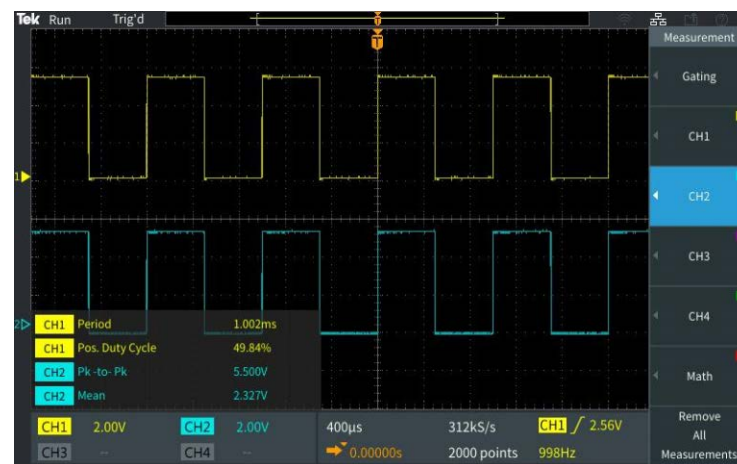

Figure 13. Transparent readouts let the signal show through.
8. Note the measurement readout (Figure 13).